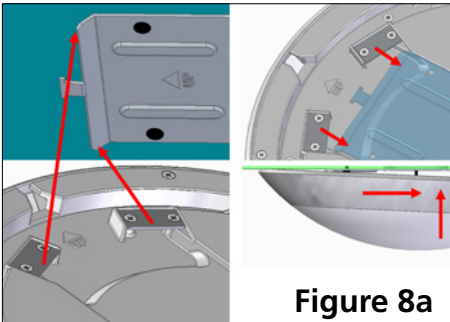
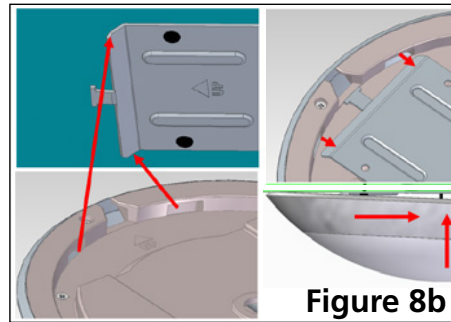

Figure 8a
Figure 8b
7. Secure fixture to canopy plate with the corners of canopy plate latch to the fixture brackets as shown in Figure 8a (PR17) or Figure 8b (PR13).